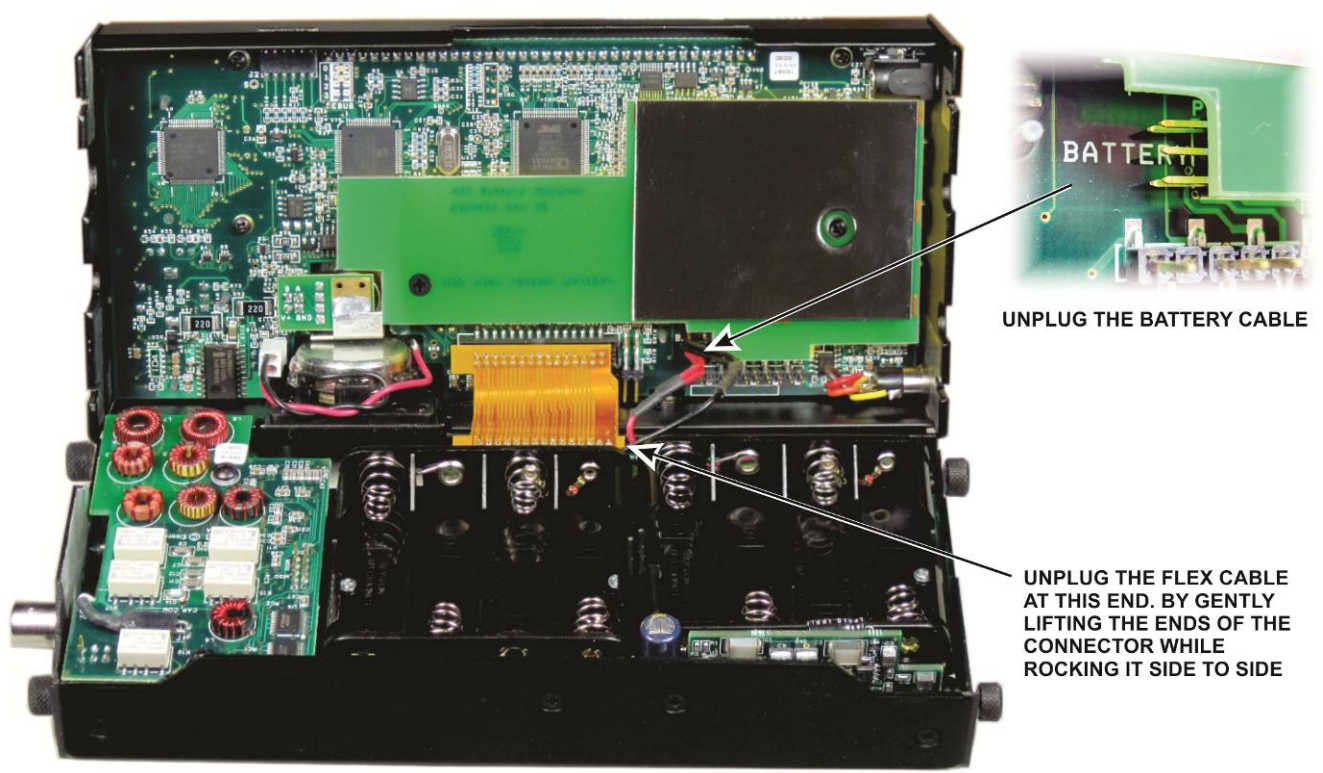

Figure 4. Disconnecting the Flex and Battery Cables.
□ Separate the two halves of the KX3 case by unplugging the battery cable and unplugging the flex cable at the end next to the battery holders as shown in Figure 4. Gently lift up on each end of the flex cable connector and rock it side to side to unplug it. When free, set the front panel assembly aside.